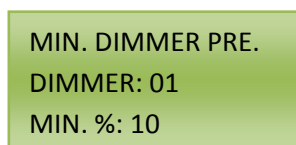

Figure 18.4
- a. This Action helps the user to set the initial Dimmer brightness when the dimmer switch is tapped once on a Dimming Cycle Function. To change the Dimmer, press the RIGHT Arrow. Press the UP or DOWN Arrow to change the Dimmer. Press the LEFT Arrow to return to the colon to move onto programming the Minimum %. Press the DOWN Arrow to move the cursor onto the colon between the words Min. % and 10. Press the UP or DOWN Arrow to change the Minimum %. Make sure to press the ENTER to save the information. See Figure 18.4 for an example.